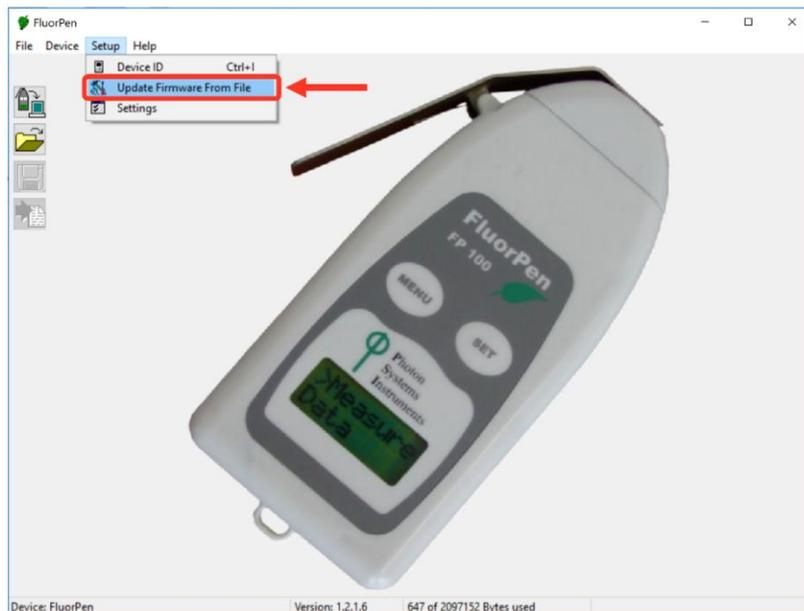

Fig. 24 Update Firmware.
- Select: **Setup > Update Firmware From File** (Fig. 24).